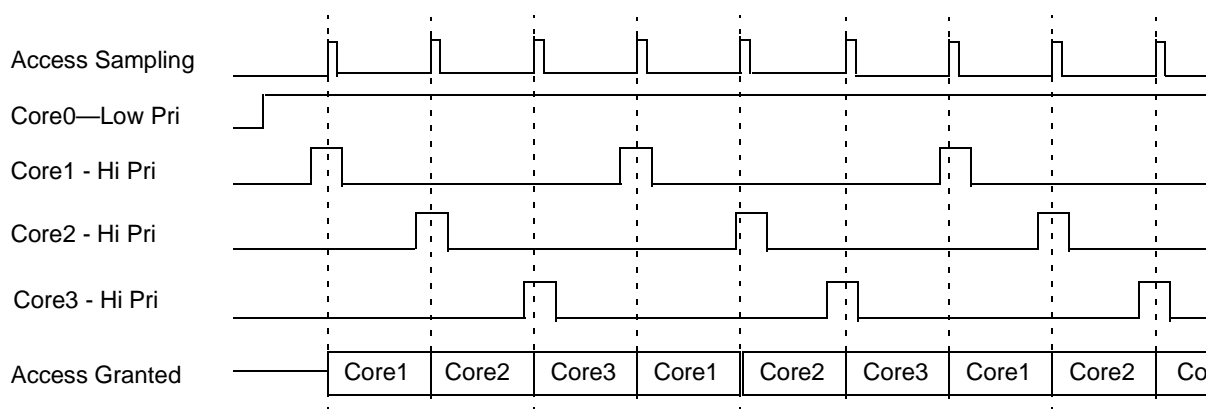

Figure 2. Cores Requesting Access: Core 0 Frozen (Never Granted Access)
- Any other core or cores are accessing the SQBus with mid and high priority at every interval where the SQBus arbiter samples bus requests (see Figure 2).
The problem here is that the slave cores are using the full bandwidth of the SQBus with constant high priority instruction access requests. The master core can gain access using prefetch (low priority) at the start of the cache line because the bus logic raises the master core priority after 1 freeze. But, as soon as a mid-cache line (low priority) prefetch begins, the core priority is not raised and the master core effectively freezes because when it starts the next prefetch, due to its low priority, the bus never grants access (see Figure 2).
Testing showed that some level of deadlock can be avoided by altering timing settings to external memory, but this method has shown to cause bus overheating on ADS and custom boards, and as such should be strictly avoided. The theory behind this method is that the deadlock condition only occurs when there is overlap between accesses of different cores to external memory via the SQBus (as illustrated in Figure 2).